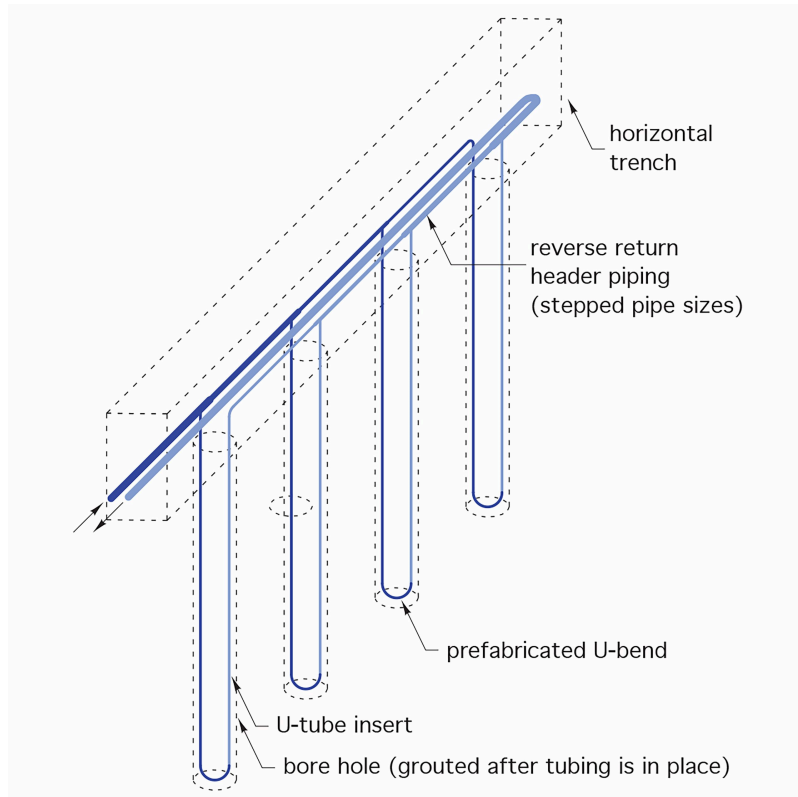

Figure 8 Reverse-return manifold piping
- Figure 8 Open-loop well system © Caleffi Hydronic Solutions (<https://www.caleffi.com/usa/>
The supply and return tube from each borehole are then connected together into supply and return manifolds or “headers”, in much the same fashion as in a hydronic heating system. A reverse-return piping configuration, as shown in Figure 8 below, ensures equal flow through each borehole.